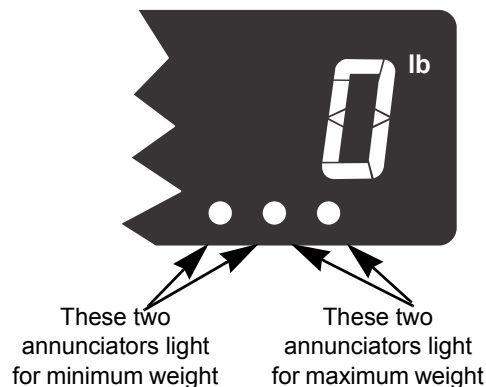

Figure 3.3 Min/Max annunciators
Only the highest weight applied to the scale is displayed when the peak weight value is selected to be displayed. Minimum weight is designated by a pair of green *circle* annunciators. Maximum weight is designated by a different pair of green *circle* annunciators. See Figure 3.3.
1. Repeatedly press **SELECT** until the two green circle annunciators on the right light up. See Figure 3.3. This means you are now viewing the peak or maximum weight.